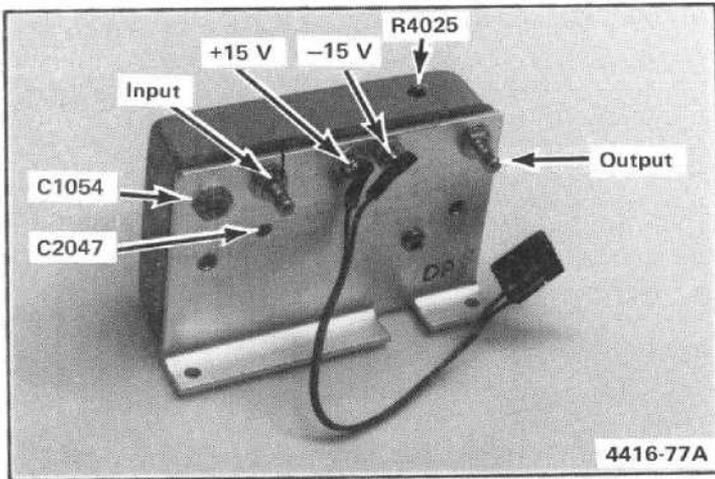

Figure 6-11. 110 MHz IF assembly showing the location of test points and adjustments.
6. Adjust C2047 and C1054 (Figure 6-11) simultaneously for minimum signal amplitude on the spectrum analyzer display. Minimum amplitude must be at least 35 dB down from the full screen reference of -20 dBm.